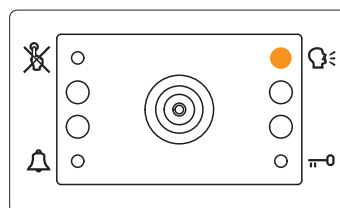

Fig. 5 The conversation is in progress
- When the resident answers, the  yellow LED (**Fig. 5**) illuminates and remains illuminated until the conversation terminates.